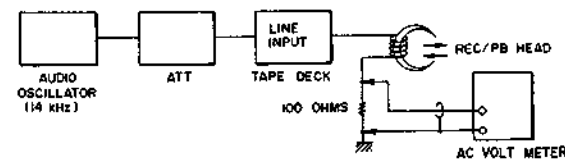

Fig. 12 Instruments Connection
- Stop recording bias oscillator while making Rec Peaking Adjustment (Refer to Fig. 12, 13)
- If a flat characteristic cannot be obtained from 1,000 Hz to 10,000 Hz at LH, CrO₂, or Fe-Cr positions, fine adjust at VR8 (LH), VR9 (CrO₂), or VR10 (Fe-Cr) respectively.